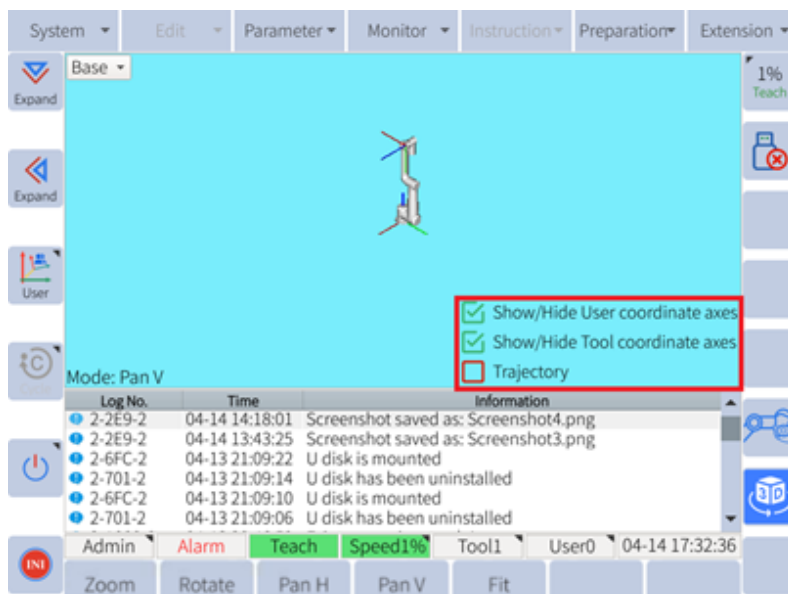

Figure 6-24: Options
2.2.2 Options are displayed as shown in **Figure 6-24**: